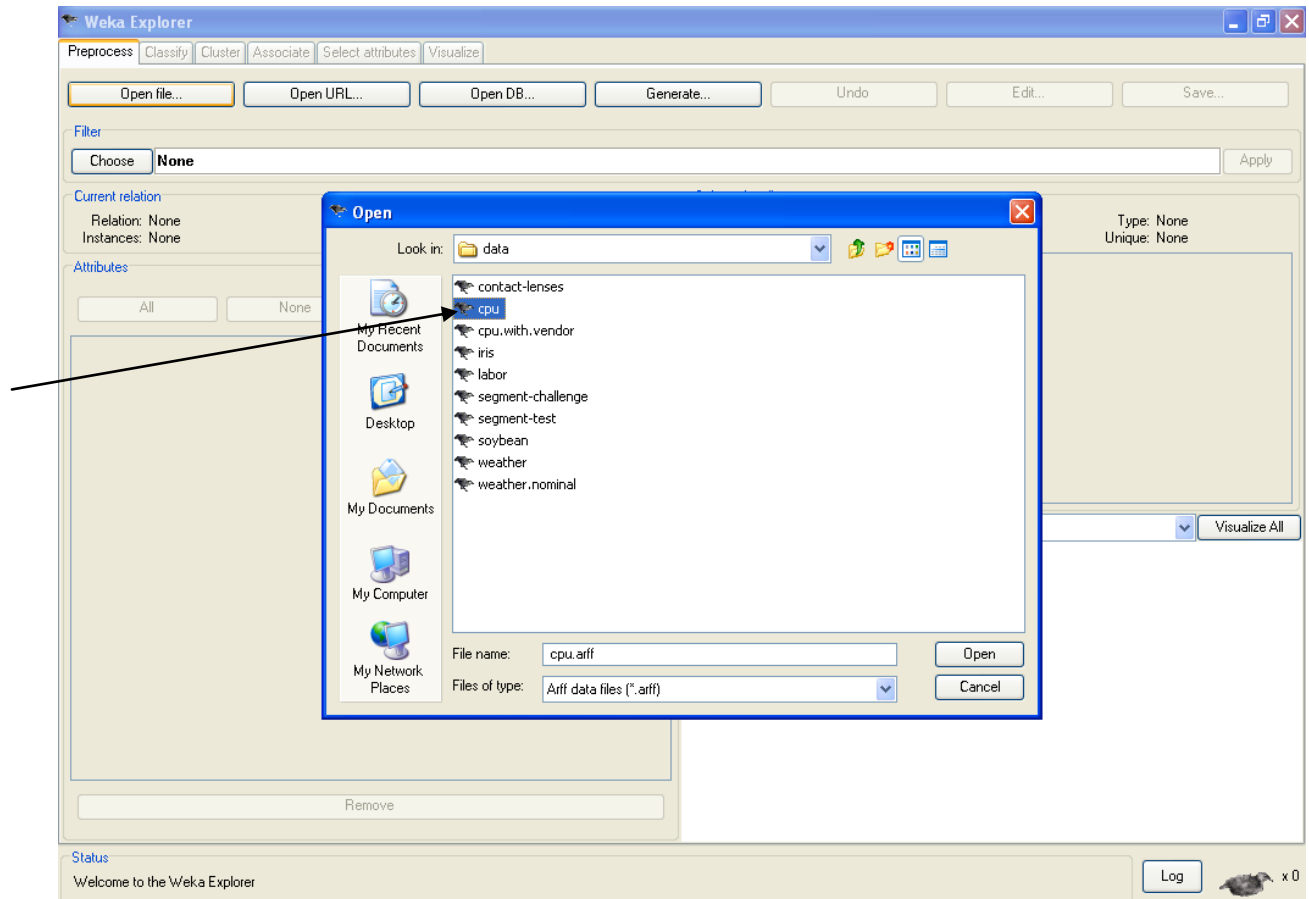

Figure-5
- Now choose the "cpu.arff" file in the above figure-5.